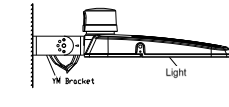

Figure 23
Step 3: Connect the fixture to the bracket and tighten the screws; connect the wires properly and put them into junction box. (Figure 23)
Notice: Adjustable angle is 0-90° (Figure 23)